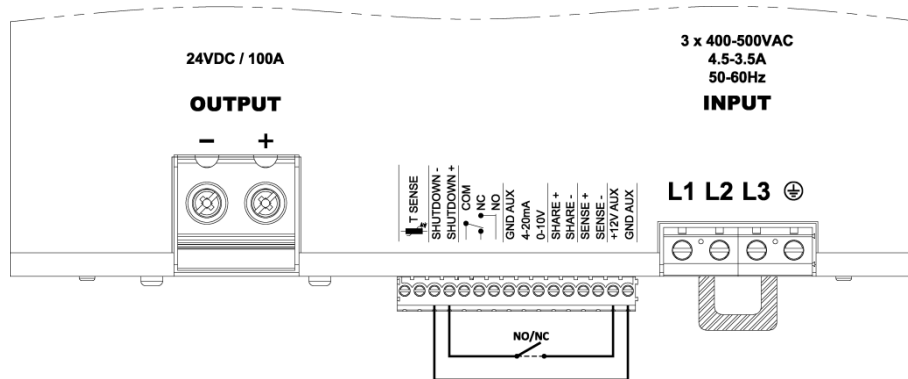

Figure 15 : Remote shutdown input connection by using the AUX power supply
- External switch or relay contact:** by connecting an external switch or relay contact as indicated in Figure 15 the NPS2400 output can be switched ON or OFF by only acting on the switch or relay contact.